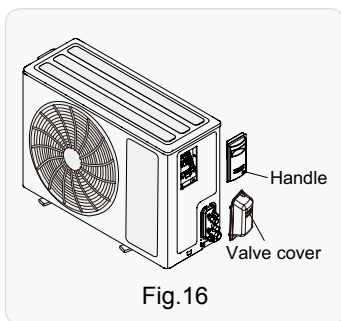

Fig.16
- (1) Remove the screw on the right handle and the valve cover of outdoor unit and then remove the handle and the valve cover.(As show in Fig.16)